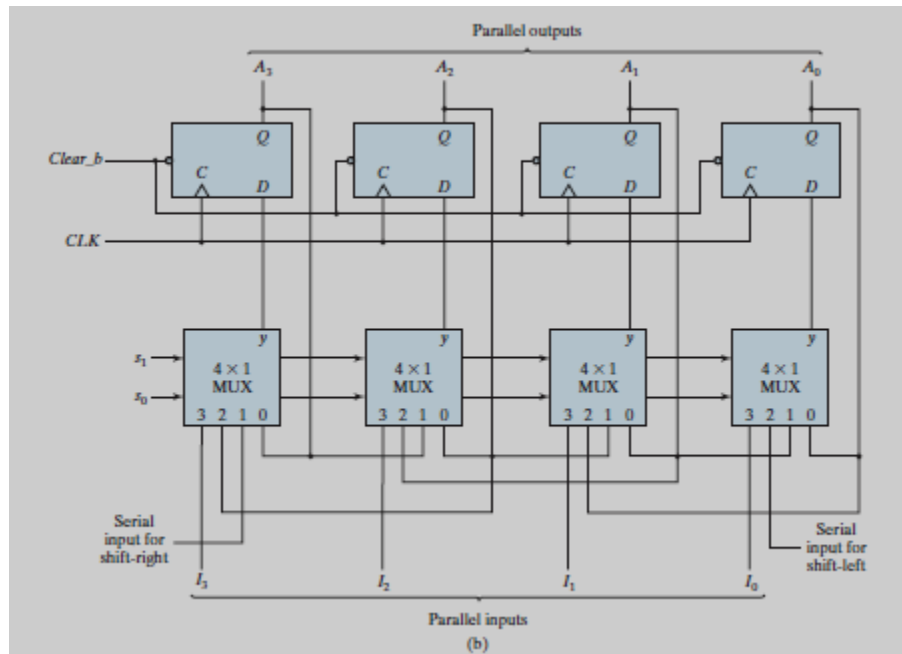

Figure 8.2 Four-bit Shift Register with Parallel Load
- As shown in Fig. 8.2, the most general shift register with parallel load has the following capabilities: